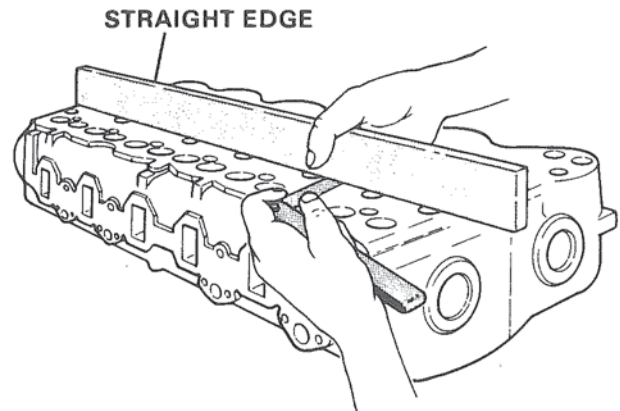

Figure 18. Checking Flatness of Cylinder Head.
2. Check flatness of cylinder head by placing a straight edge on gasket surface. Use a 0.05 mm. feeler gauge and check flatness. Change position of straight edge frequently, vary position from end to end, corner to corner. Figure 18.